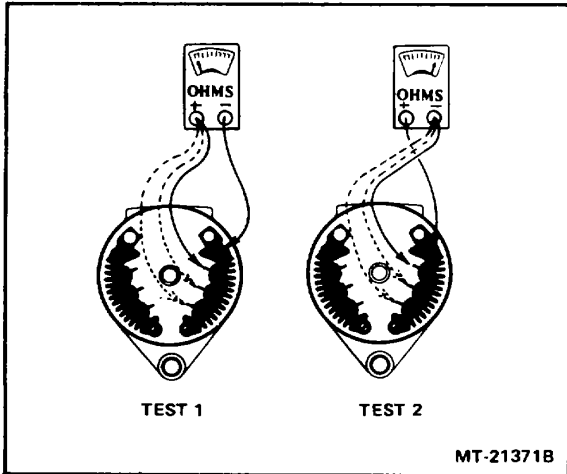

Figure 16 - Negative Heat Sink Tests.
1. Connect the negative test lead to the negative heat sink and touch the positive test lead to each diode terminal (Test 1, Figure 16). If a low resistance reading is obtained, or if the test lamp lights, the diode is shorted. See IMPORTANT on next page.
- Reverse the test leads so that the positive test lead is connected to the negative heat sink. Touch the negative lead to each of the three diode terminals (Test 2, Figure 16). A low resistance reading should be obtained, and if a test light is being used, the lamp should light. If high resistance is indicated or the lamp does not light, the diode is open. See IMPORTANT.